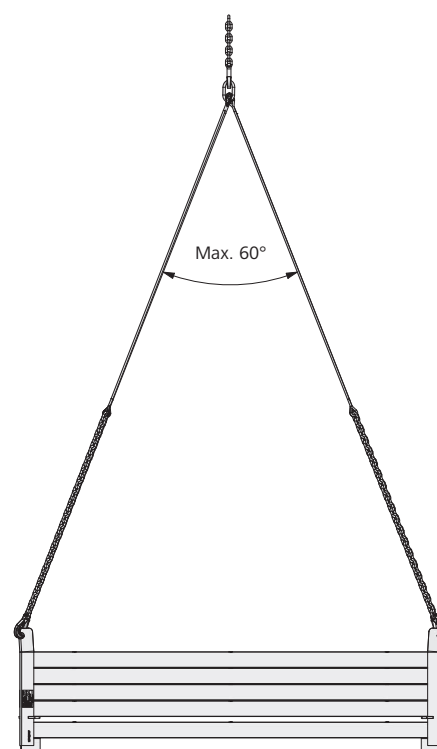

Fig. 47.4
- The opening angle of the crane sling must not exceed 60° (Fig. 47.4).